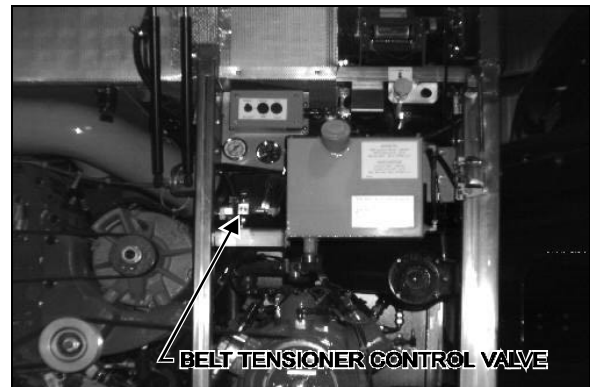

FIGURE 14: ENGINE COMPARTMENT
4. Locate the belt tensioner control valve (Fig. 14). Turn handle counterclockwise in order to reverse pressure in belt tensioner air bellows and release tension on belts. Remove belts.